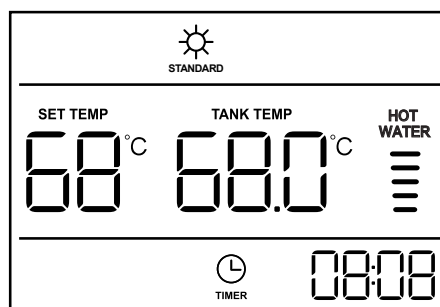

Figure 2.6 Main interface with timer
- After finishing all these steps, the display will show up like Figure 2.6. And the timer icon will be displayed all the time;